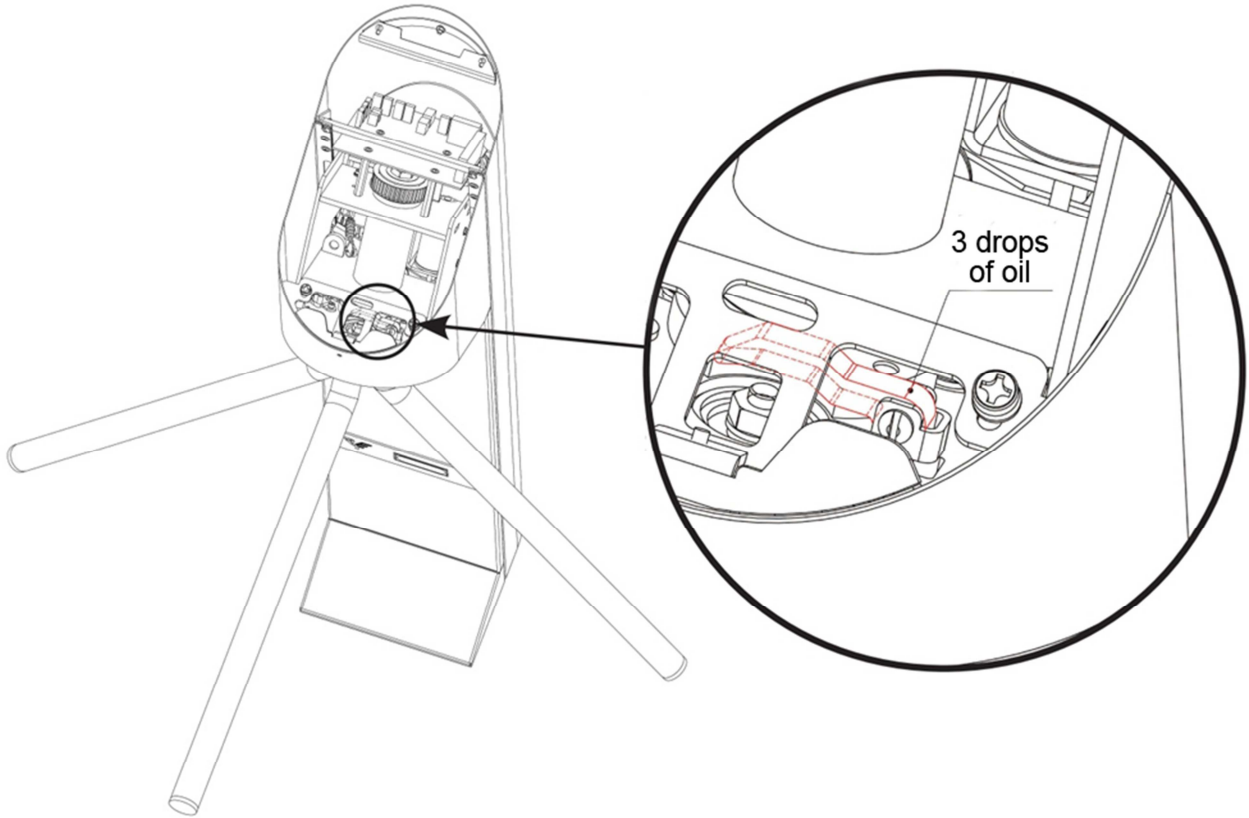

Fig. 14 Central stand of turnstile
5.4. The rotation axis of unlocking arms cam (Fig. 14).